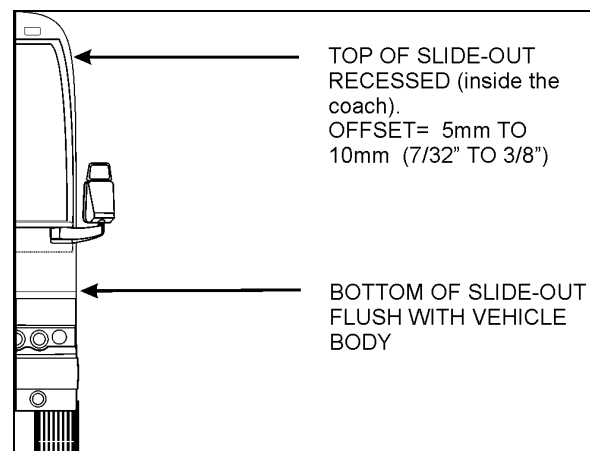

FIGURE 23 : TILT ADJUSTMENT
5. Using levelling screw 3, adjust the tilt in order to have the top of the slide-out recessed between 5mm and 10mm (7/32" and 3/8") (see FIGURE 23).